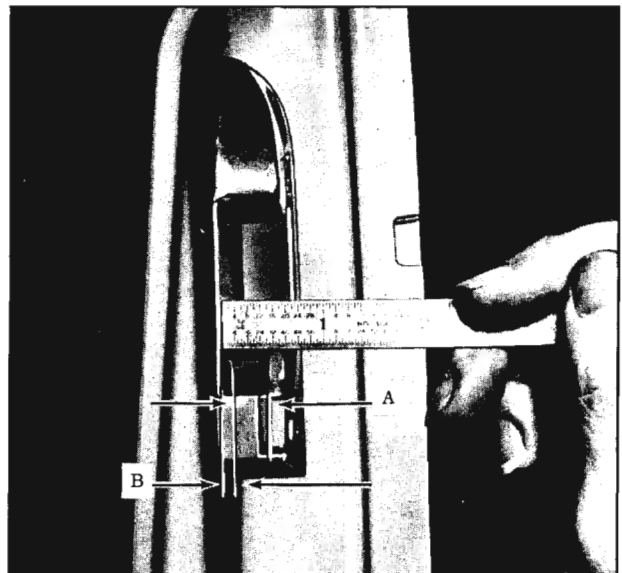

Fig. 16-28 Door Lock Striker Engagement Check
2. To determine if door lock striker emergency spacers are required, apply modeling clay or body caulking compound in door lock striker notch where lock extension engages and then close door to form a measurable impression in clay or caulking compound. (Fig. 16-28)